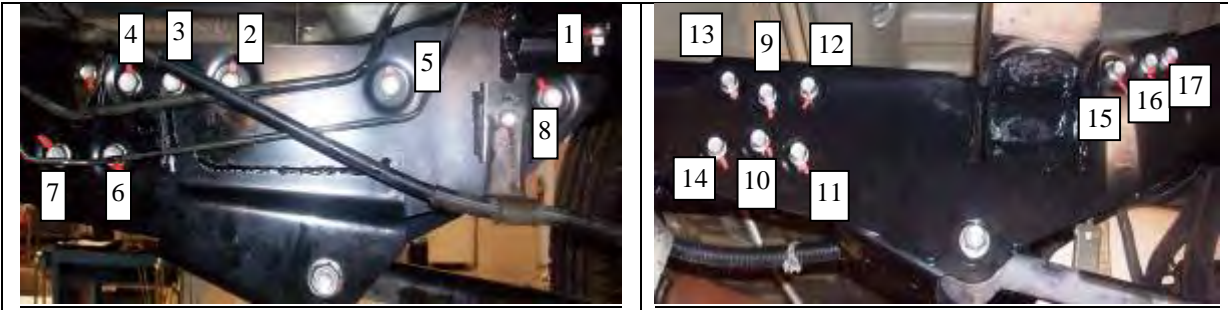

Figure 70
35. Torque bolts according to the sequence and specifications shown in Figure 70.